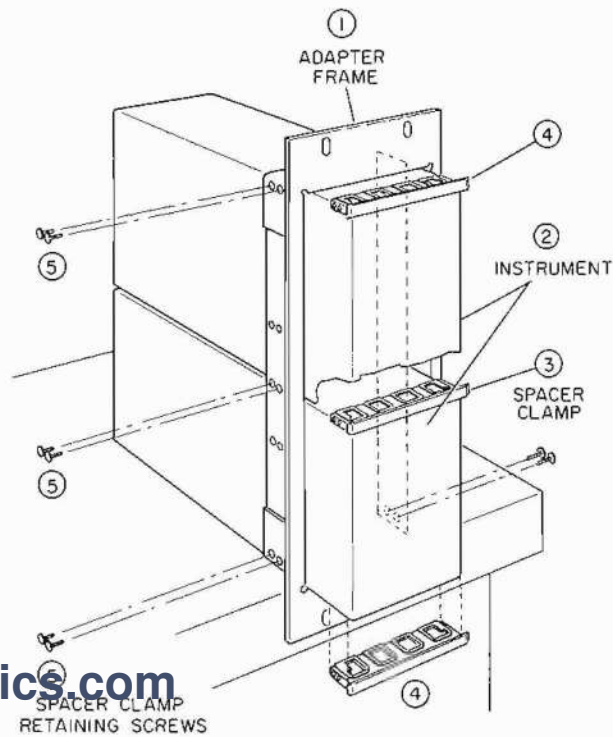

Figure 2-2. Mounting Sub-Module Units into Adapter Frame
2-11. ADAPTER FRAME. The adapter frame (HP 5060-0797) (see Figure 2-2) will accept one or more Hewlett-Packard instruments of 7" height whose total width is less than 19 inches. Filler panels can be used when instruments do not fill the frame. The frame is assembled as follows:
a. Place the adapter frame (HP 5060-0797) on edge of bench as shown in step 1, Figure 2-2.